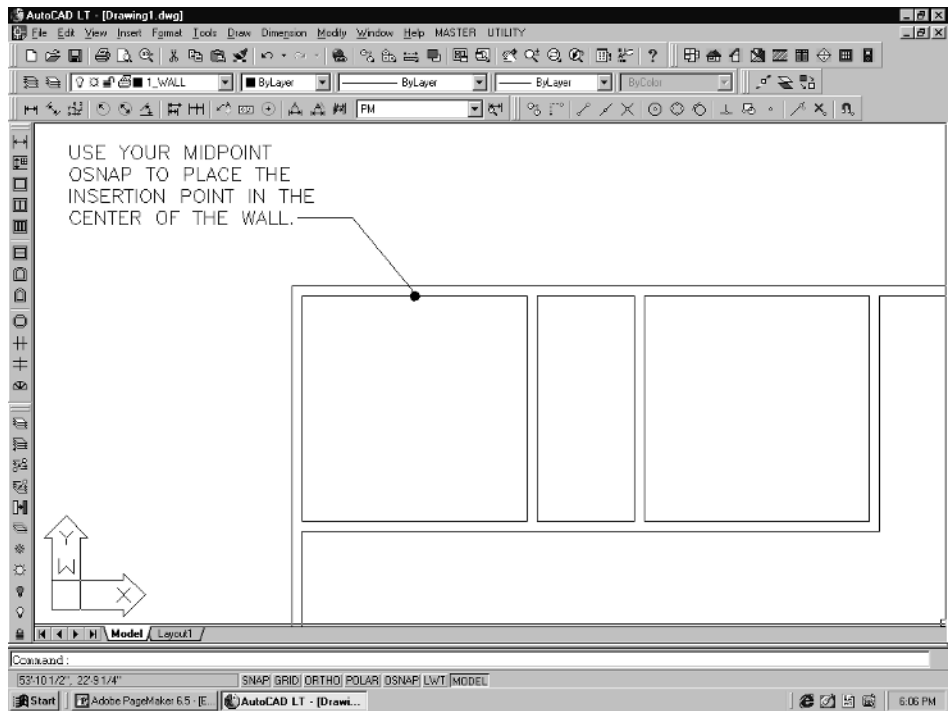

Figure 6-19
3. The next prompt is *To point*. Pull the cursor where you want the window inserted in the wall and pick or type in the distance from the reference point. This will establish the insertion point for the center of the window. You can also use your Osnaps, such as Midpoint, to establish the center point for the window, as in Figure 6-19.